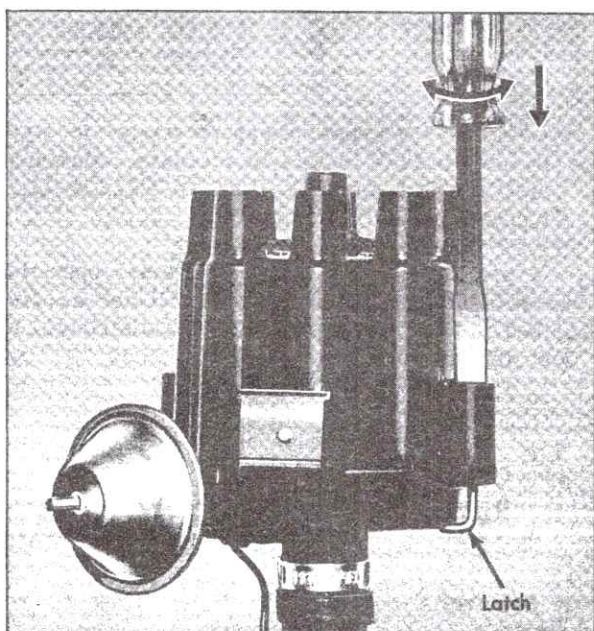

Fig. 6-19 Distributor Cap Removal
Remove distributor cap by inserting a screwdriver in upper slotted end of cap retainers, press down and turn until latches are disengaged, Fig. 6-19.
1. Remove distributor cap as shown in Fig. 6-19 and position out of way.